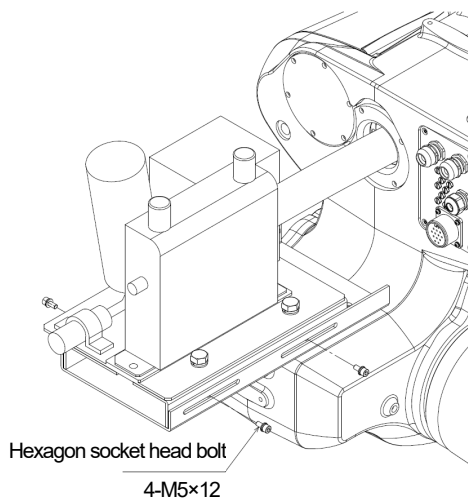

Figure 1.6 Mounting of fixing bracket (Procedure 3)
3. Referring to Figure 1.6, fix the fixing brackets A and B temporarily using four hexagon socket head bolts (M5×12). (The bracket is fixed temporarily in order to adjust the tension of all-in-one power cable.)